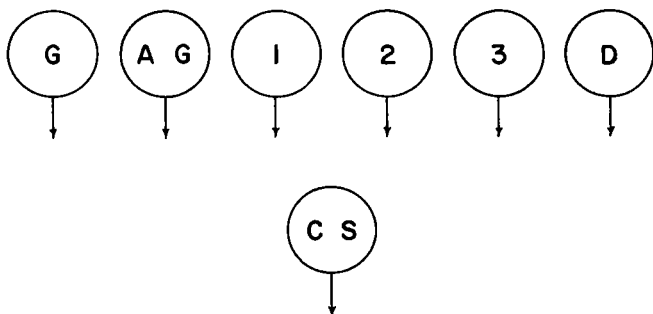

Figure 4. Section in formation.
- (1) Moves at double time.
- (2) Forms in single rank at close interval, with the gunner on the right, the assistant gunner, cannoneers in numerical order, and the driver at the left of the rank.
- (3) Centers on the chief of section at a distance of 3 paces (fig. 4).